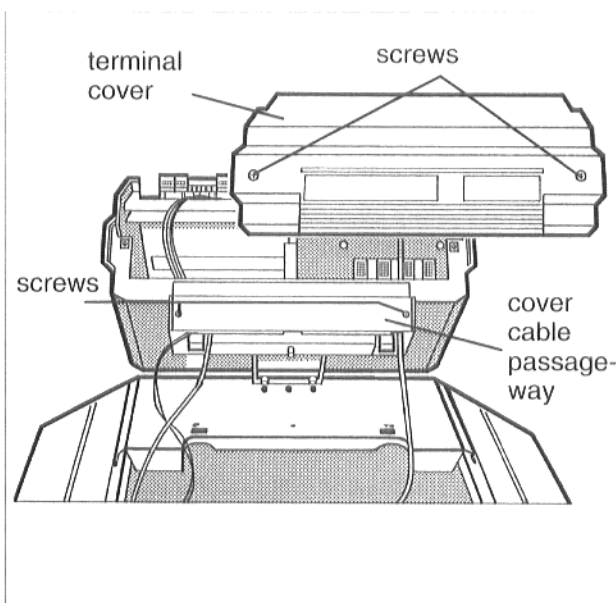

Fig. 12
- Remove both screws from the terminal cover of the control panel (Fig. 12). Remove the terminal cover.
- Remove both screws from the cover of the cable passageway (Fig. 12). Remove the cover of the cable passageway.